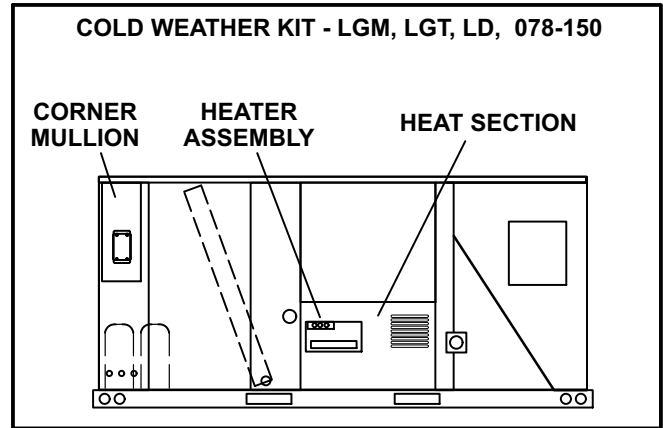

FIGURE 8
1. Disconnect all power to unit and open heat access panel. See figure 8.